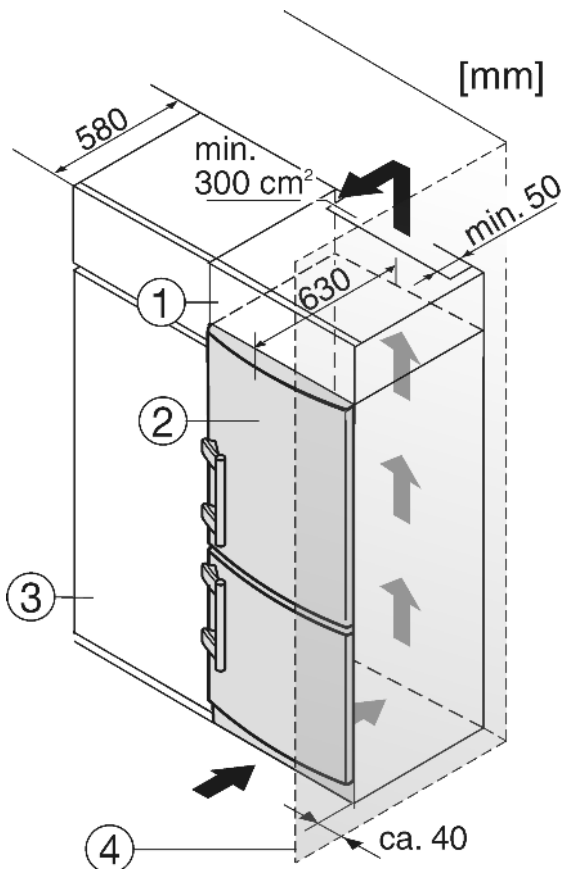

Fig. 5
- (1) Stack cabinet
- (2) Appliance
- (3) Kitchen cabinet
- (4) Wall
The appliance can be inserted into a row of kitchen units. To match the appliance Fig. 5 (2) to the height of the row of units, a suitable stack cabinet Fig. 5 (1) can be fitted above the appliance.
When inserting the appliance into a row of kitchen units (max. depth 580 mm), the appliance can be installed directly next to the kitchen unit Fig. 5 (3). The appliance door projects relative to the front of the kitchen unit by 34 mm at the side and by 50 mm in the middle of the appliance. It can be opened and closed perfectly as a result.
If the appliance is installed with the hinges next to a wall Fig. 5 (4), the distance between appliance and wall has to be at least 40 mm. This corresponds to the projection of the handle when the door is open.